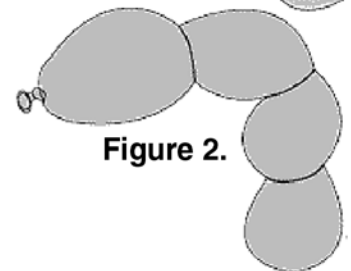

Figure 2.
2. Inflate a second long balloon. As you are inflating the balloon, slip heavy-duty rubber bands over the balloon at intervals so that, as inflation continues, the balloon is pinched by the rubber bands. It is easier to accomplish this by preinflating the balloon. It may be necessary to double the rubber band to pinch the balloon enough for the demonstration (see fig. 2).